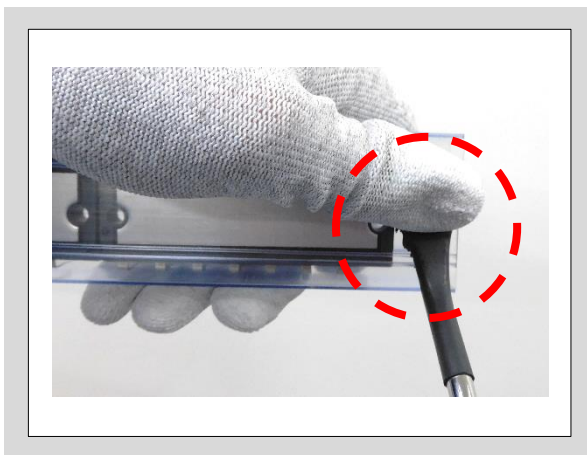

Fig. 2-5 How to hold the pin
4. Hold the pin with your finger and remove the pin with the tube opening facing up. (See Fig. 2-5, 2-6)